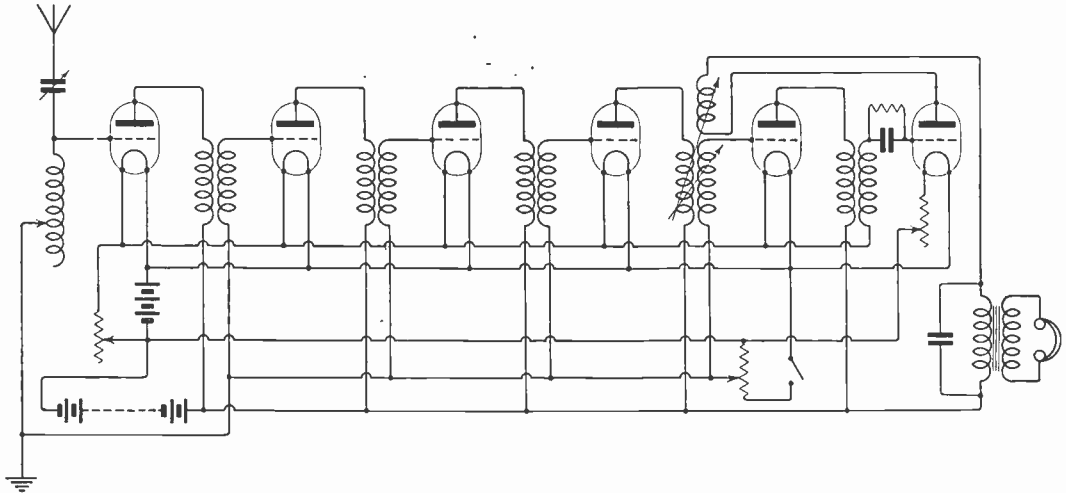

Fig. 4.
For circuit see Fig. 4. It is essential that the transformers should be of precisely the same value as in a multi-valve H.F. amplifier. Should one or two transformers have slightly different values they will filter out wavelengths on which the others are designed to give amplification. With an amplifier of this sort you are advised to adopt a construction for the transformers that will permit of them all being precisely the same. We would recommend you to wind the transformers on a 1" ebonite rod, making primary and secondary each of a single layer and insulated from one another by a single wrapping of empire cloth. Make both windings in the same direction and the finishing ends will go to grids and plates. The rectifying valve should be specially selected to give good rectification, such as "Q," "Qx," or "R4B."
"H.L.F." (Kensington).—(1) Primary, 8"×6" of No. 22; secondary, 6"×4" of No. 26. (2) See Fig. 4, page 372, June 17th issue. The grid condenser may be 0.0002 mfd., and the grid leak 2 megohms. (3) Yes.